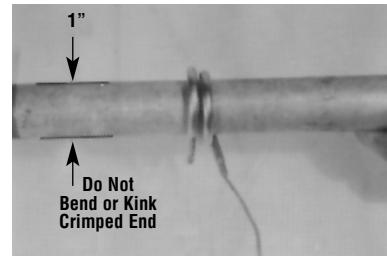

Figure 4
- B. Do not kink capillary tube. The resulting constrictions in fluid flow can destroy control function or broaden temperature differential. Minimum capillary tube bending diameter is  $\frac{1}{2}$ " I.D. (See Figure 4)